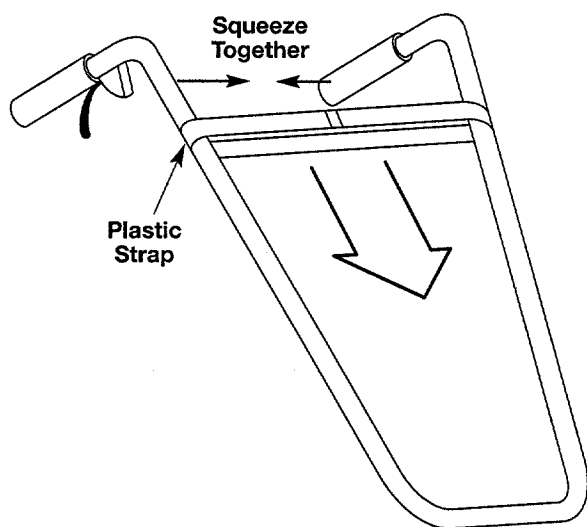

Figure 1
2. Squeeze the handle bar and slide the plastic strap down and off. See Figure 1.